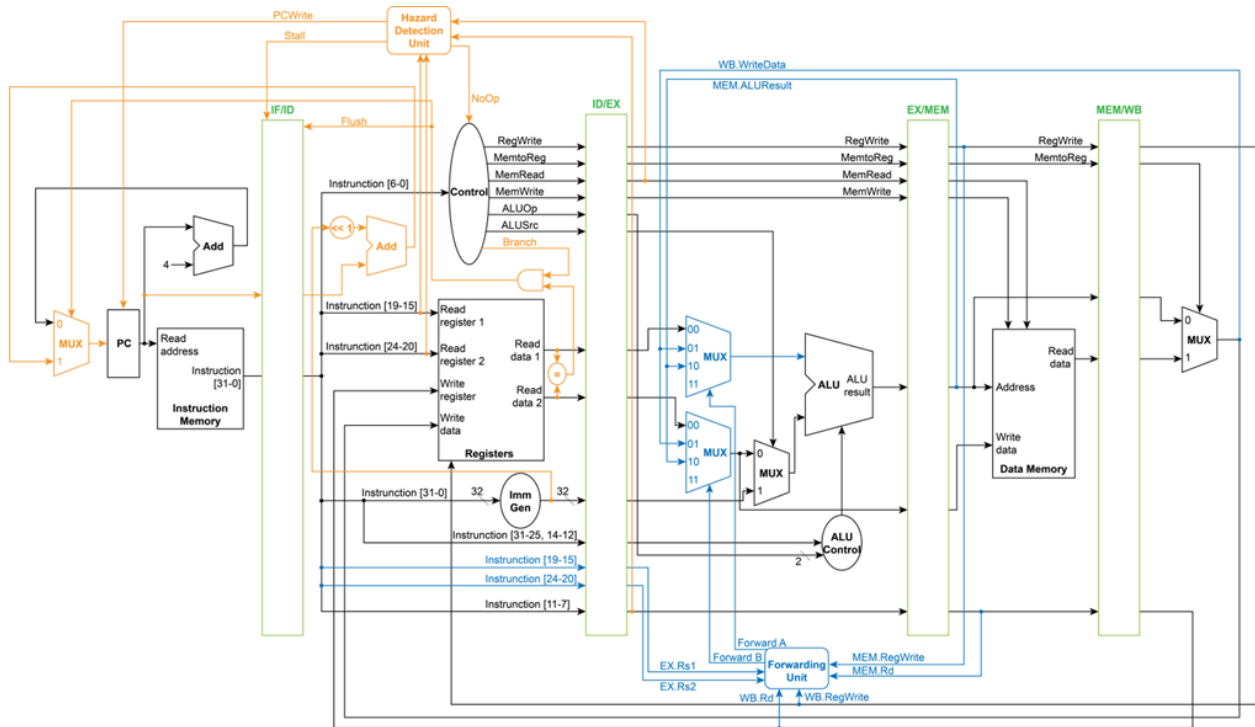

Figure 1 Final Datapath after Adding Forwarding and Hazard Detection Unit
- Figure 1 describes the CPU data path.
- **You may implement** the modules listed in Section 1.6, and integrate them in `CPU.v`. It will be easier if you follow Figure 1